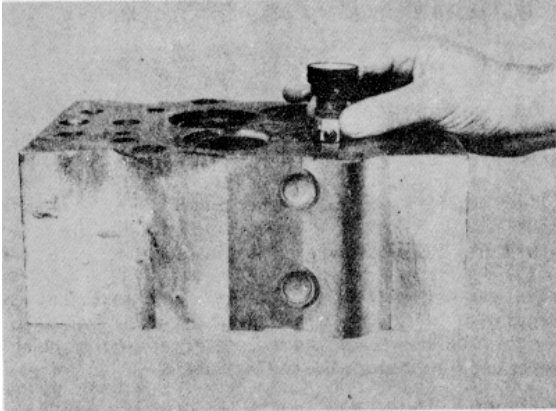

Figure 16D-21. Check the Valve Seat Common Centers
2. Grind the valve seats to assure negative valve protrusion in the cylinder head. Rough grind and finish with the correct stones from the ST-685. The rough grinder stone must be cut to 30 degrees before the grinding operation. Check the valve seat width. It should be 0.060 to 0.100 inch (1.52 to 2.54 mm). See 1, Figure 16D-6. If the seating area (1) is wider than 0.100 inch (2.54 mm) maximum, stock can be removed from the points (3) and (4) with specially cut stones. Narrowing is not to extend beyond the chamfer on the valve seat. The chamfer provides metal for staking or peening.